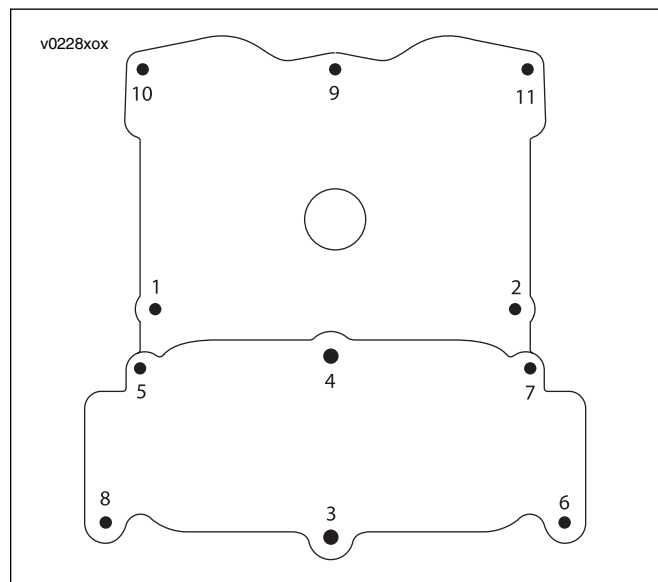

Figure 1-95. Cam Cover Torque Sequence
34. See Figure 1-95. Insert fasteners in cam cover and tighten to 9.7 Nm (86 **in-lbs**) in sequence.